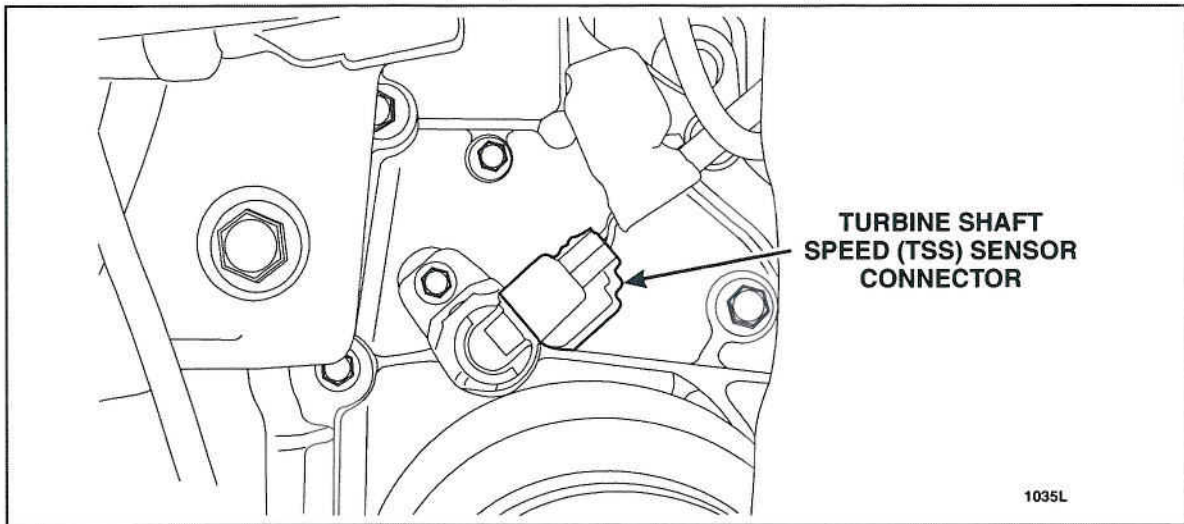

FIGURE 21
48. Disconnect the turbine shaft speed (TSS) sensor connector. See Figure 21.
15. Connect the turbine shaft speed (TSS) sensor connector. See Figure 21.